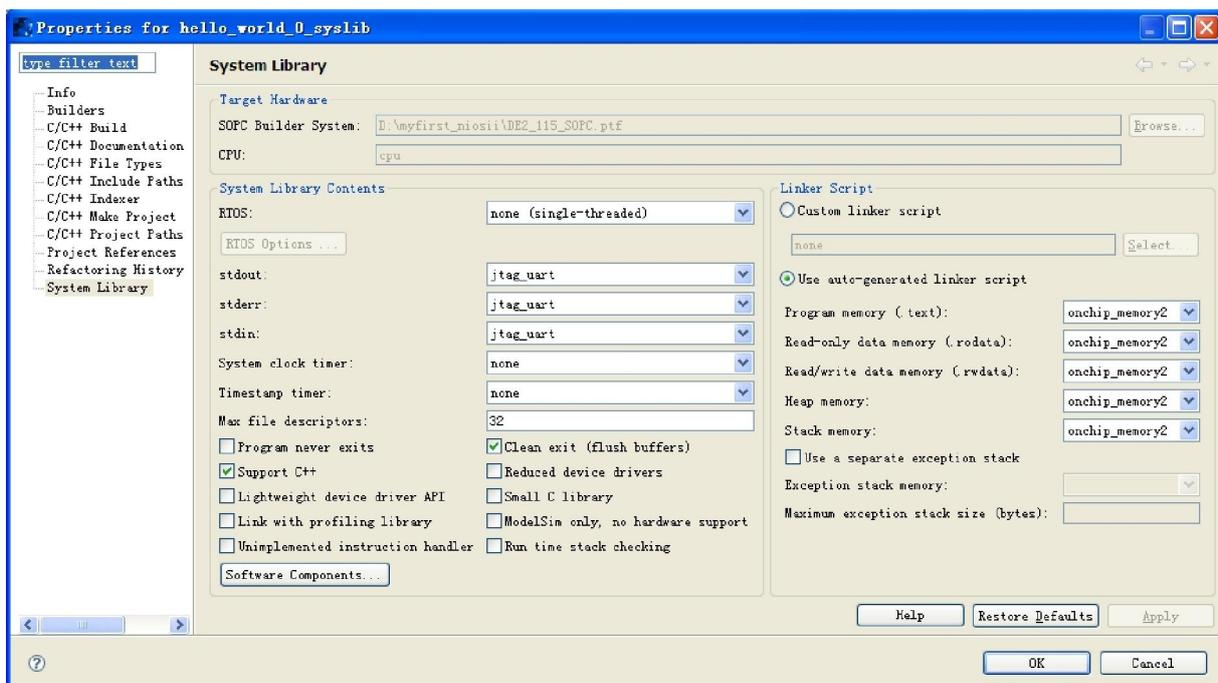

Figure 2-9 Configuring System Library Properties
3. In the **Linker Script** box, observe which memory has been assigned for **Program memory(.text)**, **Read-only data memory(.rodata)**, **Read/write data memory(.rwdata)**, **Heap memory**, and **Stack memory**, see Figure 2-9. These settings determine which memory is used to store the compiled executable program when the example **hello_world_0** programs runs. You can also specify which interface you want to use for **stdio** , **stdin**, and **stderr**. You can also add and configure an RTOS for your application and configure build options to support C++, reduced device drivers, etc.
4. Choose **onchip_memory2** for all the memory options in the **Linker Script** box. See Figure 2-9 for an example.